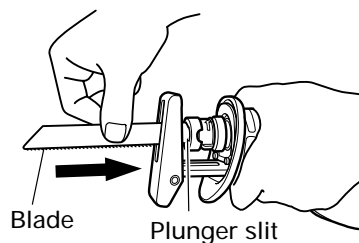
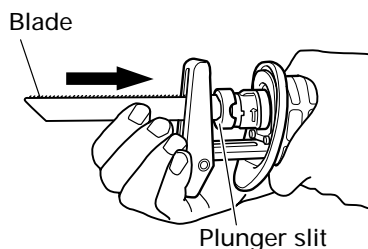

Fig. 7
Fig. 8
- (3) Insert the saw blade all the way into the small slit of the plunger tip. You can mount this blade either in the upward or downward direction. (Fig. 7, Fig. 8)